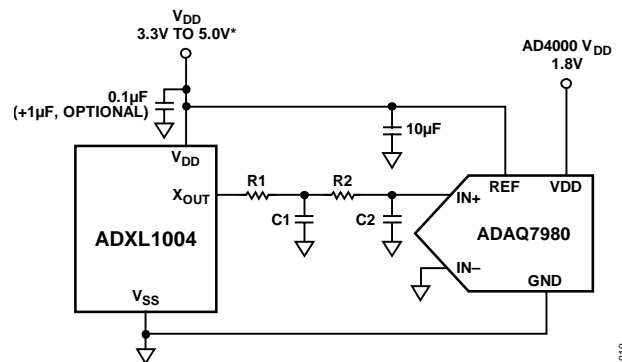

Figure 23. Application Circuit for the ADXL1004
See Figure 23 for an example of the interface, including components when measuring mechanical vibration from 0 kHz to 5 kHz. For a 5 kHz pass band, a single-pole resistor capacitor (RC) filter is acceptable; however, in some applications, use of a more aggressive filter and lower sample ADC sample rate is possible. The following components are recommended to form a 5 kHz low-pass RC filter at the output of the ADXL1004 when interfacing to an ADC, such as the ADAQ7980: $R_1 = 91\text{ k}\Omega$, $C_1 = 330\text{ pF}$, $R_2 = 0\ \Omega$, and $C_2 = \text{not required}$. A minimum ADC sample rate of 16 kHz is recommended to avoid aliasing. When using sampling rates less than the resonance frequency (typically 45 kHz), be aware and account for the effective gain at the output of the sensor due to the resonance to ensure out of band signals are properly attenuated and do not alias in band.
See Figure 23 for an example of the interface, including components when measuring mechanical vibration from 0 kHz to 10 kHz. The following components are recommended to form a two-pole RC filter at the output of the ADXL1004: $R_1 = 500\ \Omega$, $C_1 = 10,000\text{ pF}$, $R_2 = 1\text{ k}\Omega$, and $C_2 = 10,000\text{ pF}$. A minimum ADC sample rate of 200 kHz is recommended to avoid aliasing.